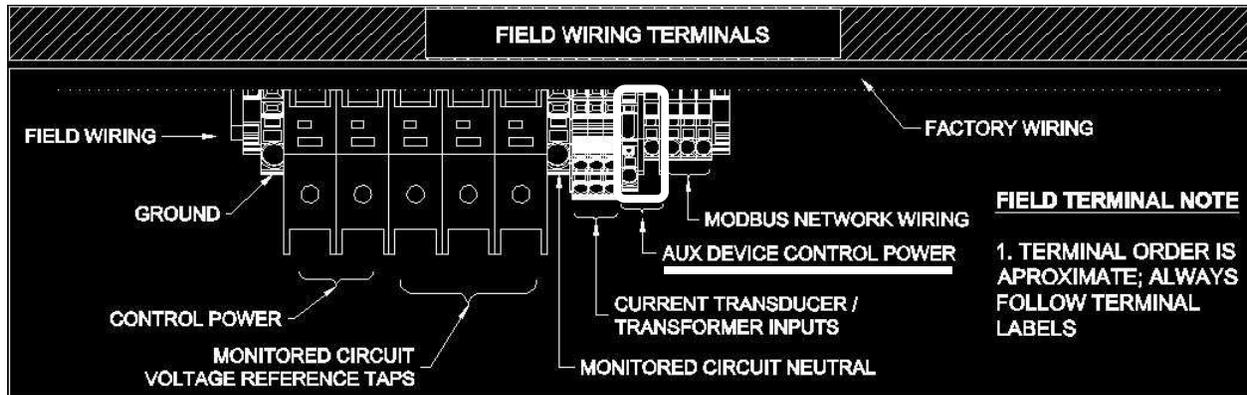

Figure 4 - Auxiliary 24VDC power output area
- Figure 4 - Auxiliary 24VDC power output area 8
Fused DC power at 24V and 1.25 Amps is available via terminals labeled DC 24V (11 and 12) that are just to the right of the neutral tap (Figure 4 - Auxiliary 24VDC power output area). These are designed to power weather stations, add-on meters requiring 24V, etc.